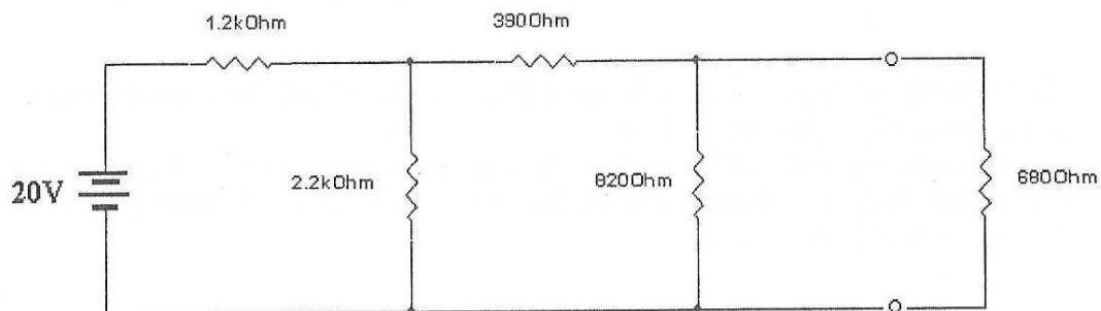

FIG. 1
- A. Wire the circuit shown in FIG.1 below